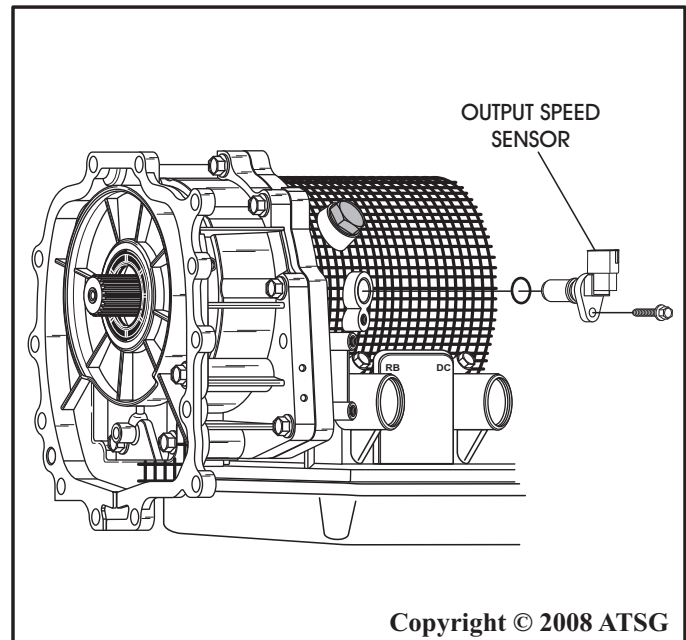

Figure 237
8. Install new "O" ring on output speed sensor, lube with a small amount of Trans-Jel®, install into case bore, as shown in Figure 237.